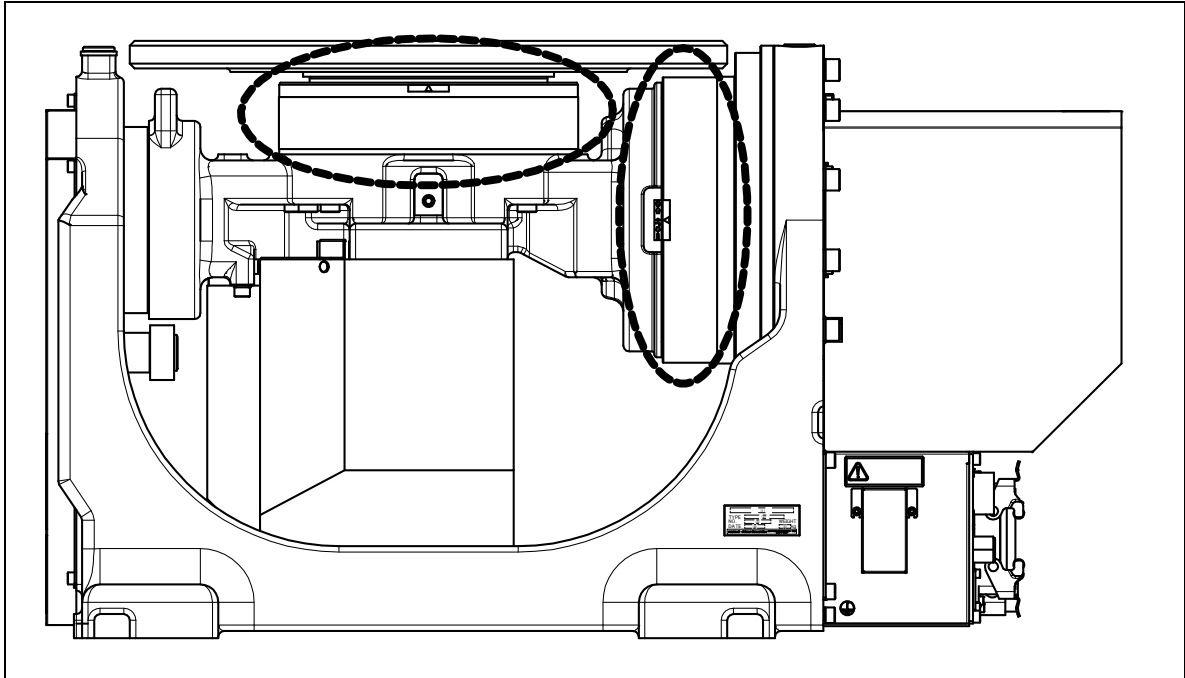

Fig. 2.2.1 (a) Check points of oil seepage
- Oil might accumulate on the outside of the seal lip depending on the movement condition or environment of the axis. If the oil viscosity changes, the oil might drip depending on the axis movement. To prevent oil spots, be sure to wipe away any accumulated oil under the axis components in Fig. 2.2.1 (a) before you operate the positioner.